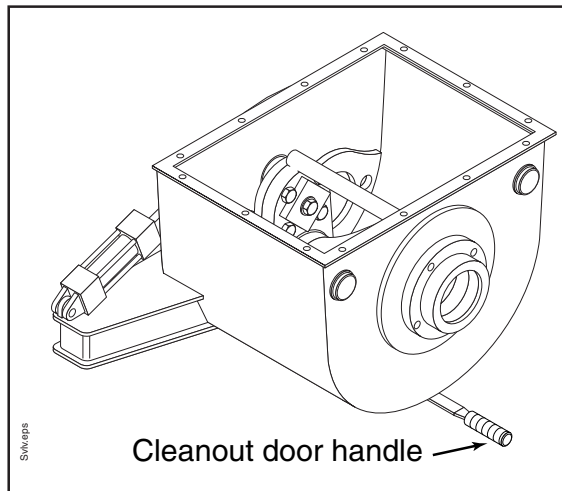

Figure 23
- Stop the unit. Open the cleanout cover on the bottom of the concrete valve (Figure 23).